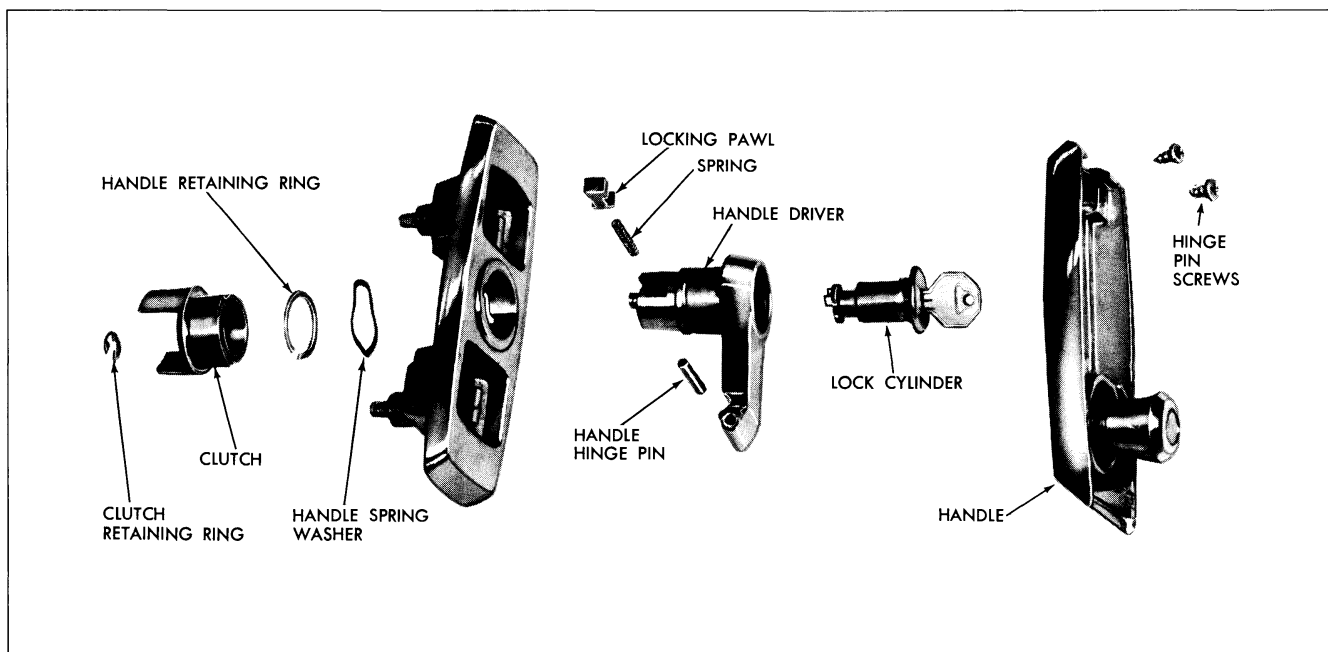

Fig. 5-14 Tail Gate Outside Handle
2. Remove clutch retaining ring and slide clutch off shaft of handle driver (Fig. 5-14).
3. Insert key in lock cylinder and turn key to lock position. Depress locking pawl (Fig. 5-14), turn key (lock cylinder) approximately 1/4 turn counterclockwise and remove lock cylinder assembly, locking pawl and locking pawl spring from handle driver.
3. Remove retaining ring securing handle (Fig. 5-14), remove spring washer from shaft of handle driver and withdraw handle from escutcheon.
4. To remove handle, remove hinge pin screws (Fig. 5-14) and remove handle from driver.